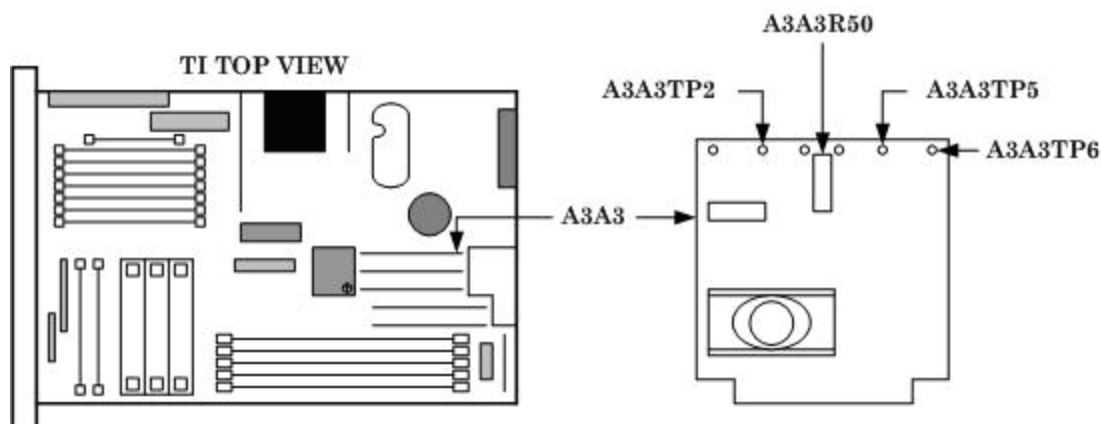

Figure 13. A3A3 card.
(2) Connect digital multimeter to A3A3TP5 (fig. 13) and chassis. If digital multimeter does not indicate between +19.998 V dc and +20.002 V dc, perform **b** (2) below.
(2) Adjust A3A3R50 (fig. 13) for an indication of 20.000 V dc on digital multimeter. No further adjustments can be made (R).